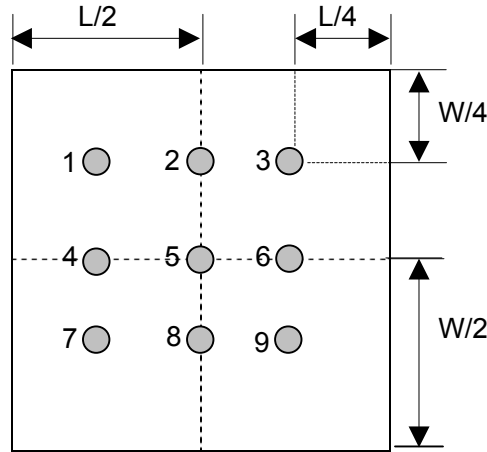

Fig. 3
5.1.4 Set brightness and contrast to be maximum, apply pattern as Fig.3, it should be the following requirement: